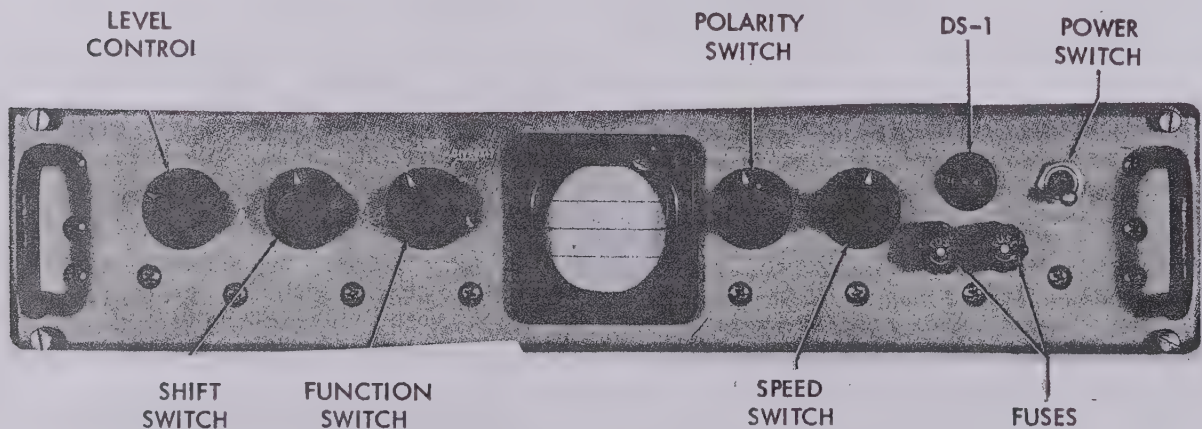

Figure 3-1. Frequency Shift Converter CV-483/URA-17, Front Panel Controls
b. DESCRIPTION OF CONTROLS. - All controls normally used during operation are located on the front panels of the two identical converters (figure 3-1). Table 3-1 lists all operator's controls by name and function. Other controls are to be adjusted only by a technician.
(1) BEFORE USE. - Ascertain if equipment is connected for diversity or single-receiver operation. Allow the associated receivers and teletype printer(s) to warm up (see applicable technical manuals). Turn the converter POWER switches to the On (up) position and allow a five minute warmup period.
(2) DURING USE. - Adjust converters and associated equipment as directed in paragraph 3-2g(1) for single-receiver operation or paragraph 3-2g(2) for diversity operation.
(3) SECURE. - To secure the AN/URA-17, turn POWER switch on each converter to Off (down) position.
(1) CONTROLS. - The controls used by the operator are illustrated in figure 3-1 and listed in table 3-1.